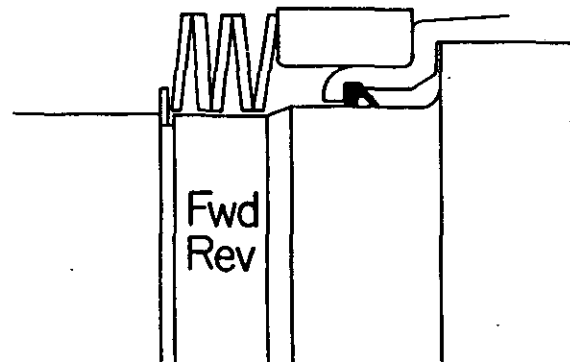

Figure 78
Install disc springs. First disc spring with large diameter of bevel toward spacer. Alternate five (5) disc springs (see Figure 78).